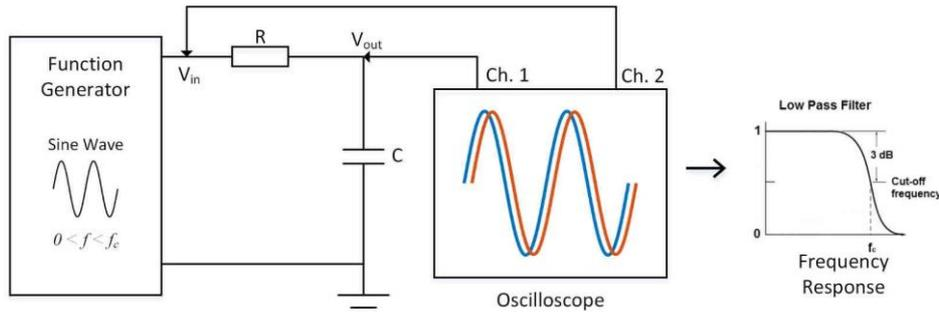

Figure 6: Measurement System Schematic.
The measurement arrangement is shown in Figure 6. This is a half bridge configuration consisting of the resistor R and the unknown capacitor C . The method is based on finding the cutoff frequency of a RC filter. The cut-off frequency is the frequency at which the output power is halved and is indicated by the power level of -3 dB. A sample frequency characteristic of a RC filter is also given in Figure 6. Use the sine wave in the function generator and keep the frequency lower than the cut-off frequency. In this case, you will see successive sine waves in the channels of the oscilloscope as seen in Figure 6. In order to determine unknown capacitor value, you must increase the frequency until it catches the cutoff frequency of RC filter. The amplitudes of the measuring voltages should change as the frequency increases and should be zero for higher frequencies than cut-off frequency of the low-pass filter. When you reach the cutoff frequency, the ratio between the voltage values should be 0.707 as given in equation (3). You should observe this situation by changing the frequency of the sine wave in the function generator.